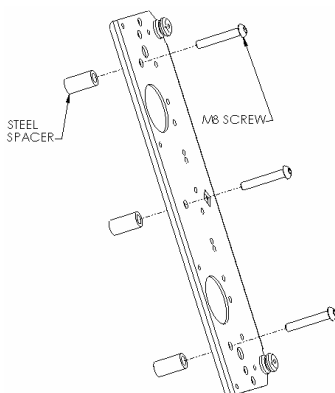
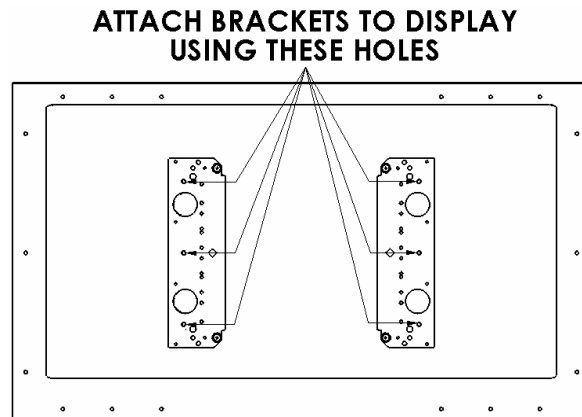

Figure 4
Figure 5
- Place Nylon spacers on mounting holes and align hole pattern on brackets with pattern on back of display (see Figure 4 & Figure 5). Attach bracket using the M8 screws.